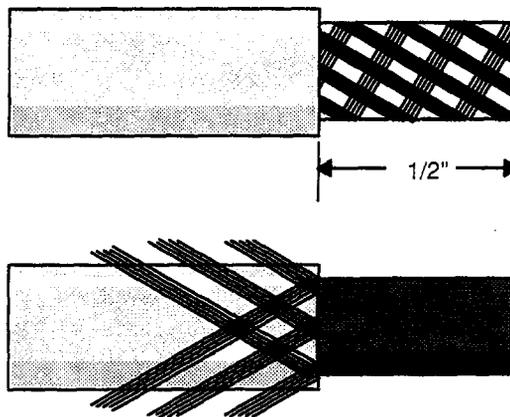

Figure 39 Preparing COAX Shield Prior to Connector Installation
- Step 1** As shown in Figure 39, score the cable jacket and, taking care not to cut the braided shield underneath, expose the braid. Separate (comb out) the braid. Fold it back against the jacket and evenly distribute it around the cable jacket.